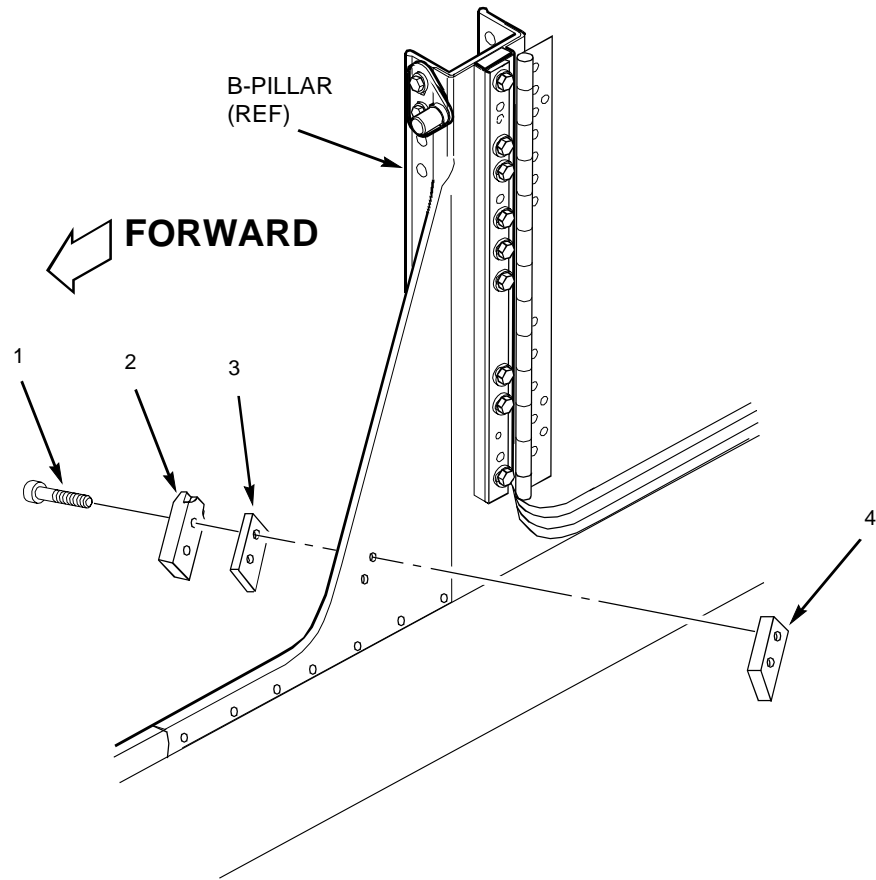

Figure 1-9. Front Door Ramp Block Installation (2 and 4 Door)
- c. Apply sealing compound to two capscrews (1). Install front door ramp block (4), lower front ramp block (2), and spacer (3) with two capscrews (1). (See figure 1-9.)
- d. Torque capscrews (1) to 10 ft lb (14 N•m).